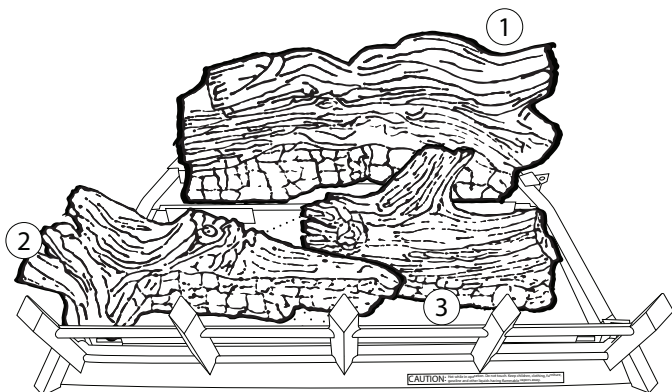

Figure 6.29 - Log #3 Placement
3. Place the front center log (#3) on the pin located on the left side of the burner. See Figure 6.29.